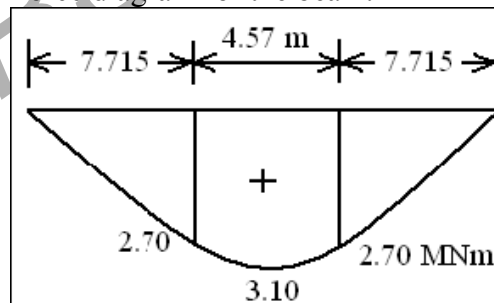

figure 2
2. The following figure 2 indicates the Bending Moment diagram. Develop the loading and Shear force diagram for the beam. [16]